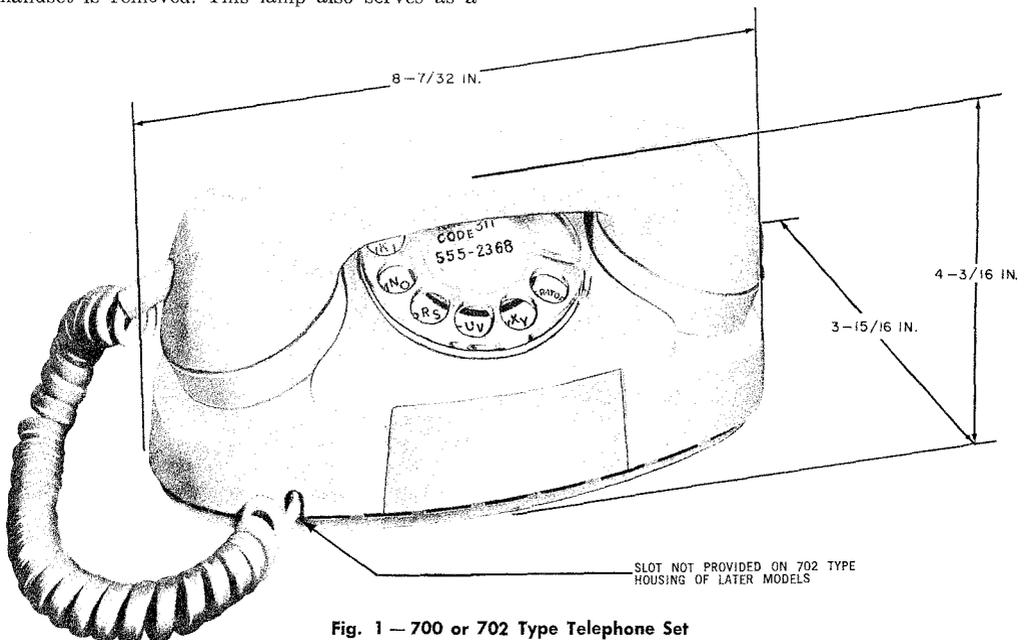

Fig. 1 — 700 or 702 Type Telephone Set
**1.01** This section covers PRINCESS® telephone sets equipped with rotary dials (Fig. 1).